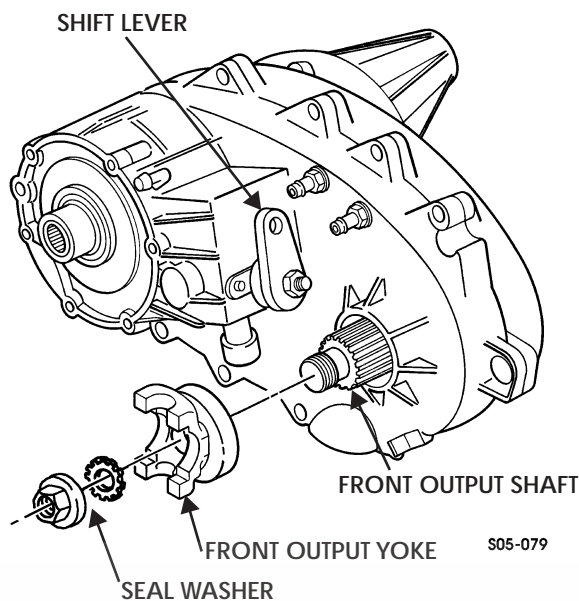

Figure 5-185: Front Seal
47. Install seal washer and front output yoke on front output shaft with nut. Tighten nut to 110 lb-ft (149 N•m) (Figure 5-185).